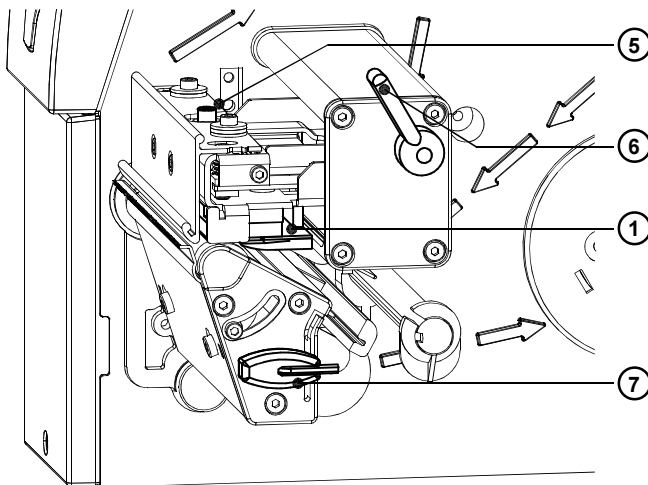

Fig. E-2 Changing Printhead I
2. Swing the lever (6) to the position shown in figure E-2. In this position, the printhead assembly is unlocked but still lying on the print roller.
3. Loosen the printhead locking screw (5) using the Allen key (7).
4. To lift the printhead assembly, swing the lever (6) clockwise until it stops.
5. Remove the printhead (1) from the pins (11) on the printhead carriage.
6. Carefully unplug the printhead (1) from the connectors of the printhead cables (9 and 10).
8. Place the printhead into the assembly and insert the holes (8) onto the pins (11).
9. Tighten the locking screw (5) by hand. Check that the printhead is completely secured in the printhead carriage.
10. Swing the lever (6) again into the position shown in figure E-2.
11. Tighten the locking screw (5) completely. Do not over-tighten the locking screw (5).